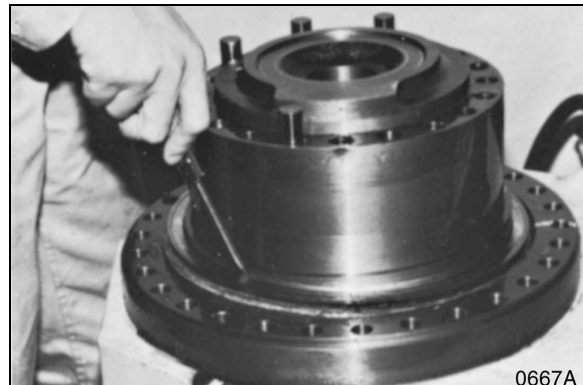

Figure 51
5. Remove the floating seal set (31A, Figure 13) from the spindle (2). See Figure 51.